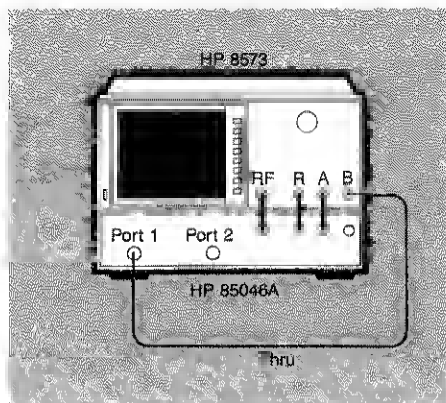

Figure 13. Setup for calibration to input B.
1. Connect the instrument as shown in Figure 13. Preset the instrument, Channel 1 will display the frequency for which 1 dB gain compression first occurs. Channel 2 will display amplifier output power to allow easy determination of the 1 dB gain compression output power.
3. Since the output power of an amplifier is important, the loss through the test set between the amplifier output and the receiver input needs to be characterized. To do this, first perform a response calibration on channel 2 as shown in Figure 13.
To do this, first perform a response calibration on channel 2 as shown in Figure 13.